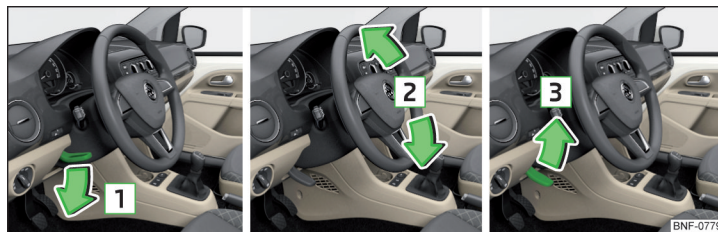

Fig. 5 Adjusting the steering wheel position
- Turn the safety lever beneath the steering wheel towards the arrow 1 » Fig. 5.